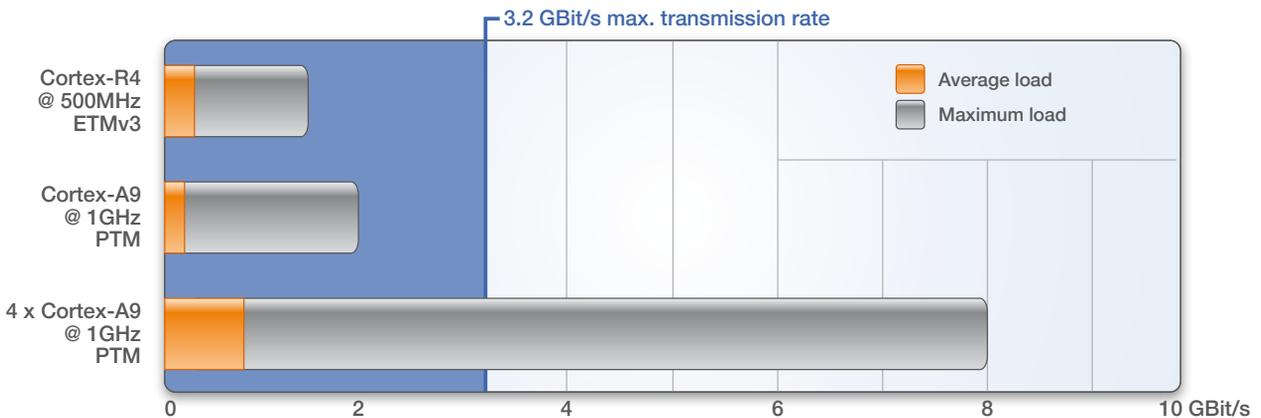

Fig. 9: A transmission rate of 3.2 GB/s is generally adequate for streaming program sequence information on the host.
The amount of trace data that is exported via the trace port depends on the target system hardware. The number of cores, the number of trace port pins, and the trace clock speed are all important parameters. The protocol used by the core trace logic plays also an important role. For example, the ARM PTM protocol is more compact than the ARM ETMv3 protocol (see figure 9).
- PowerTrace II also provides FPGA-based hardware compression of the trace data. This enables up to 3.2 GBit/s trace data to be transferred to the host computer. Figure 9 shows that this transfer rate is generally sufficient for streaming ETM/PTM data without any data loss.